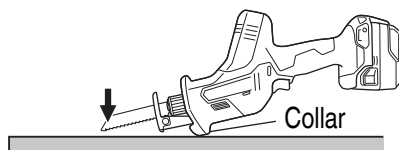

Fig. 25
- (1) Press the base against the material, keeping the tip of the blade away from the material when you pull the trigger switch. (Fig. 25).